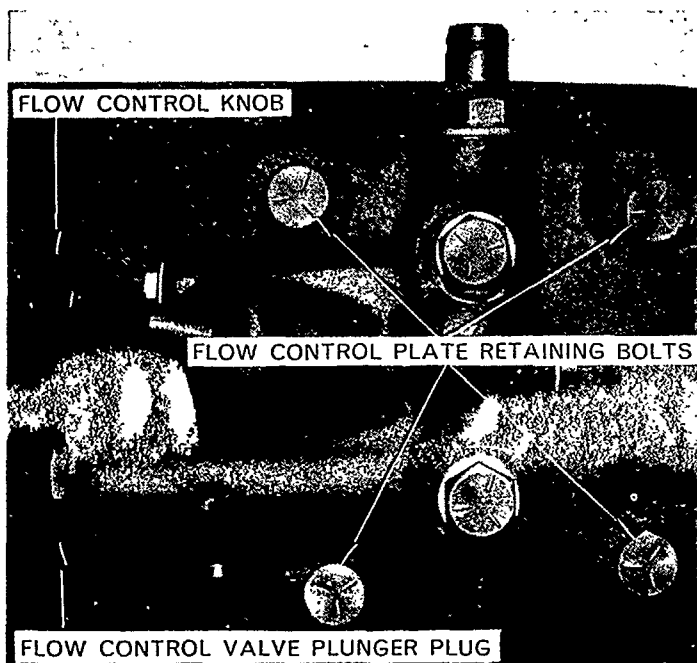

Figure 42
4. Slacken off the four bolts retaining the flow control plate to the rear axle centre housing, Figure 42.